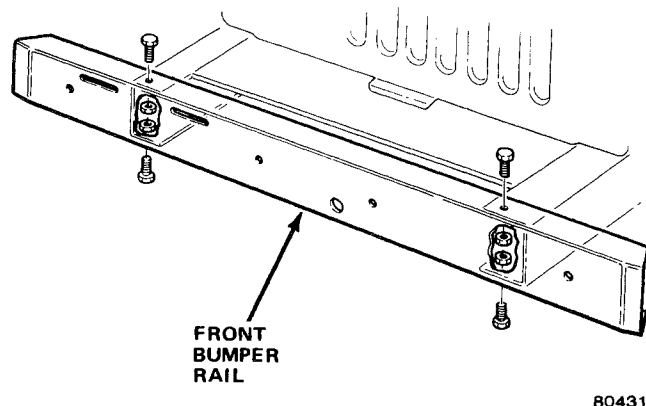

Fig. 3F-15 Front Bumper—CJ Models
- (1) Remove nuts and bolts attaching front bumper rail (fig. 3F-15) to frame extensions.